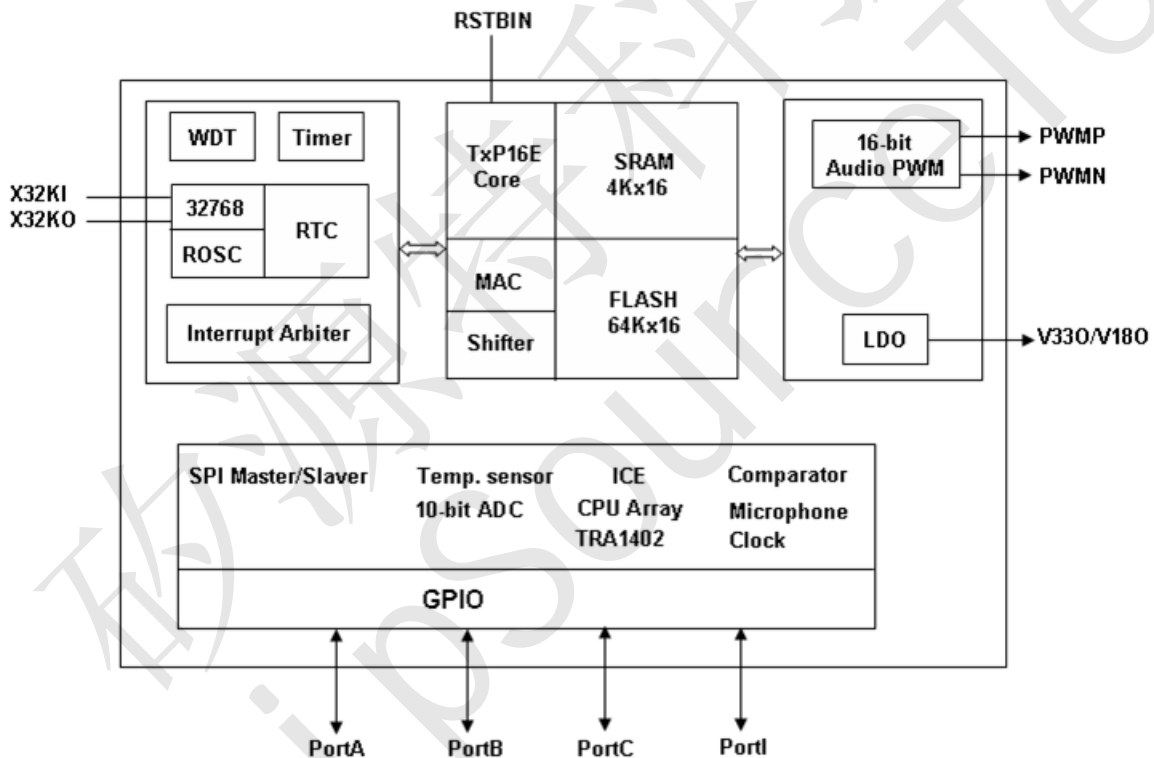

Figure 4.1
As shown in the block diagram in Figure 4.1, the TxP16E with MAC module is a 16-bit data width processing capability and all instructions are operated in one cycle except parameter data ROM(PM) access. The TxP16E not only provides general arithmetic such as addition, subtraction, shifter, normalize, and other logical operations, but it also involves MAC and circular buffer operations for complexity digital signal processing.